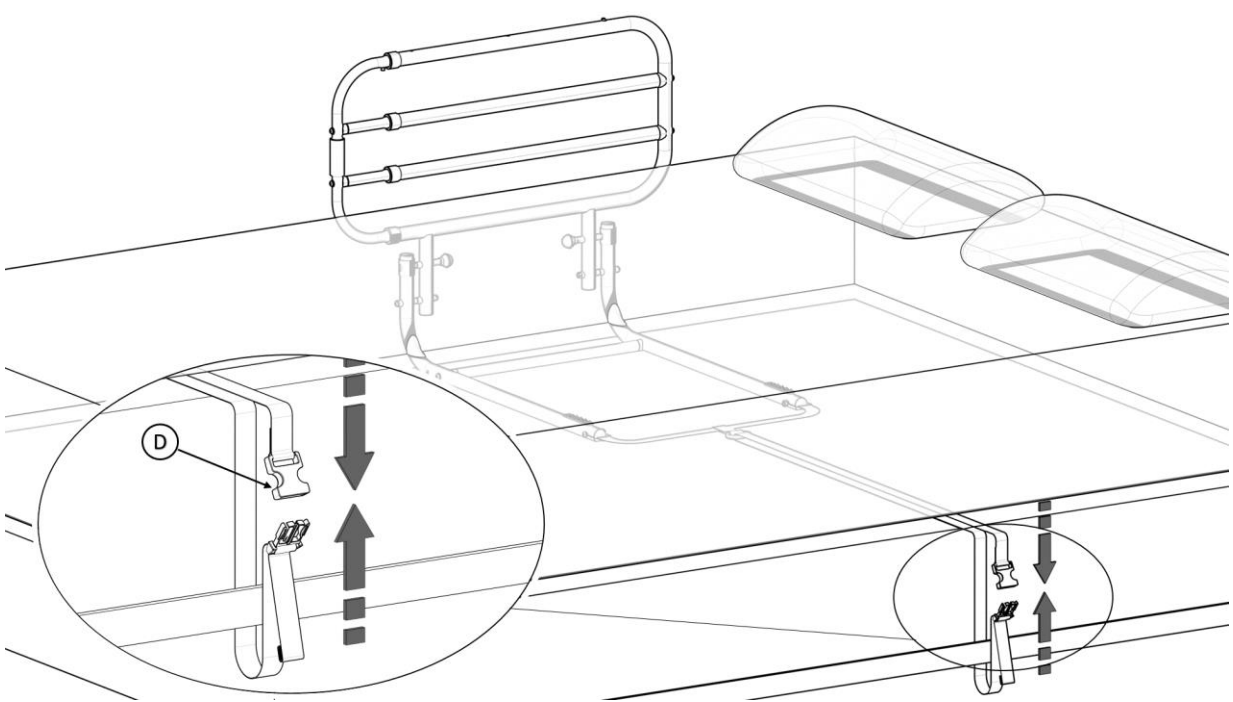

FIGURE 5
5. Loop SAFETY STRAP (**D**) around bed frame, re-buckle and tighten SAFETY STRAP to secure Bedrail product against side of the mattress as shown in *FIGURE 5*.